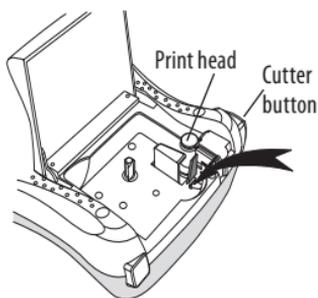

Figure 6
2. Press and hold down the cutter button to expose the cutter blade. See Figure 6.
3. Gently wipe the padded side of the tool across the print head. See Figure 6.